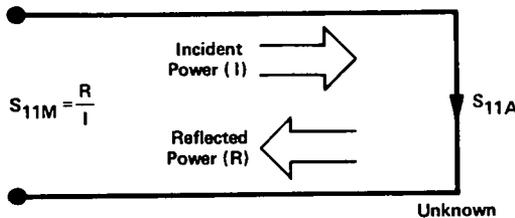

Figure 5-23
First consider a measurement of the complex reflection coefficient of an unknown one-port device. The complex reflection coefficient, S_{11} , is measured by first separating the incident signal (I) from the reflected signal (R), then taking the ratio of the two values (Figure 5-23). No matter how carefully the device is measured, the measured value S_{11M} will differ from the actual value S_{11A} , because of the presence of systematic errors.